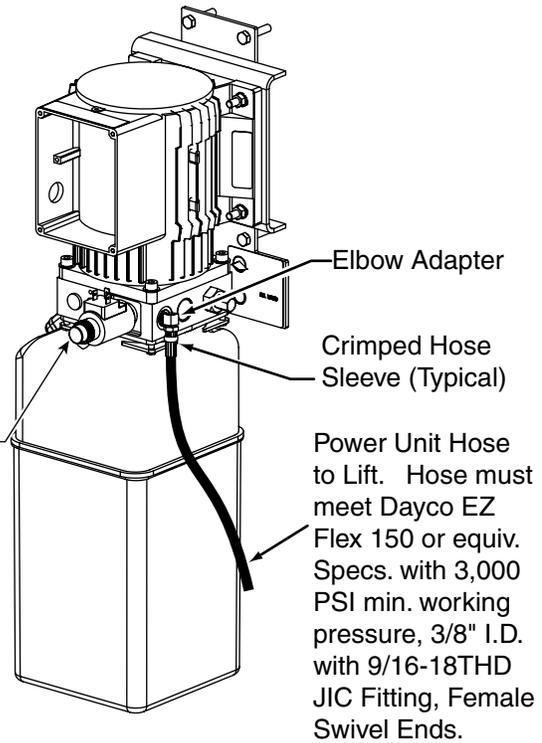

Fig. 9
C. Install hose onto elbow adapter on power unit, Fig. 9.